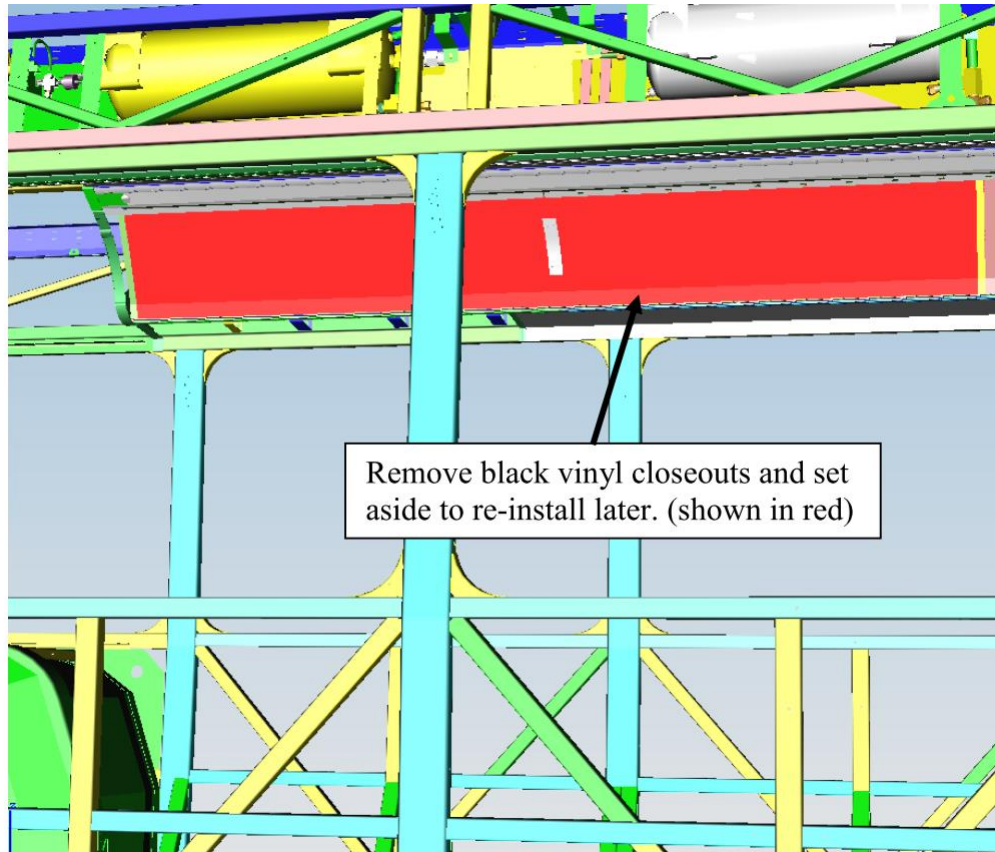

FIGURE 2: REMOVE BLACK VINYL CLOSEOUTS TO GAIN ACCESS
4. Remove the black vinyl closeouts to gain access to the air accessory tank. Set aside to re-install later. **Refer to Figure 2.**